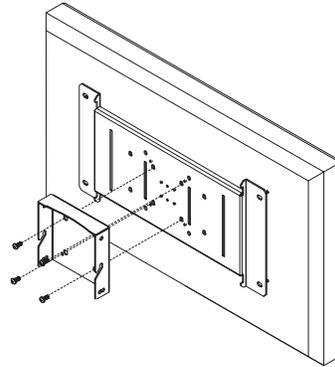
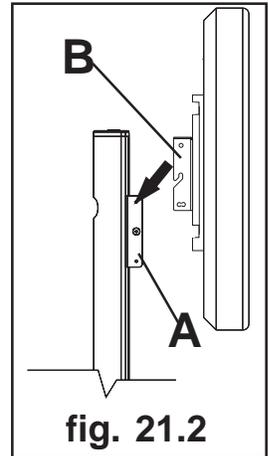

fig. 21.1
fig. 21.2
**21** Attach hook plate (B) to the back of adapter plate as shown in fig. 21.1. Then attach hook plate (B) to screen mount bracket (A) as shown in fig. 21.2.